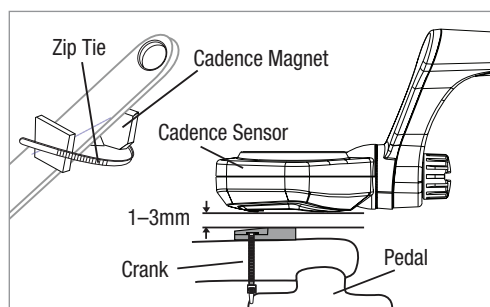

Figure 6
- Position the larger part of the sensor close enough to the crank arm that the required distance between it and the crank arm magnet is achieved (fig. 6).